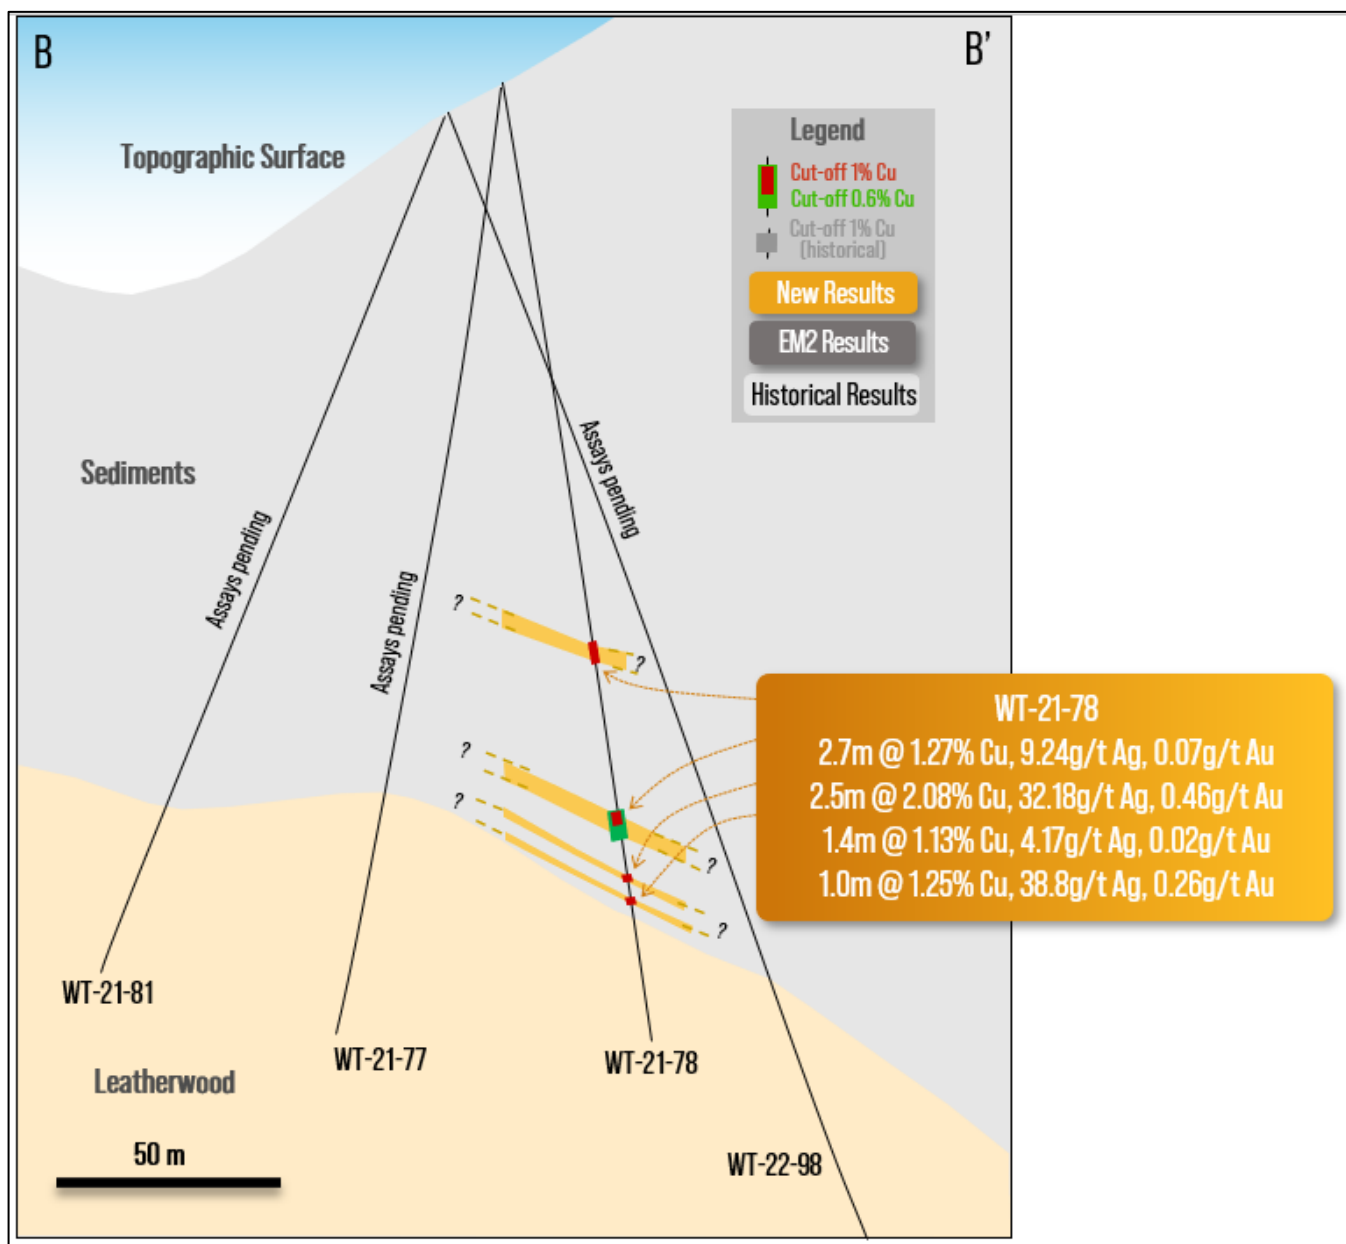

Figure 5 – East-west cross section through drill hole WT-21-78 showing mineralised intersections and relationships with nearby drill holes and local geology.
- Drilling in a scarcely drilled area just south of the main mine area confirmed multiple, thin mineralised horizons (Figure 2, Figure 5). Assays from several holes are still pending in this area. Results from WT-21-78 include: